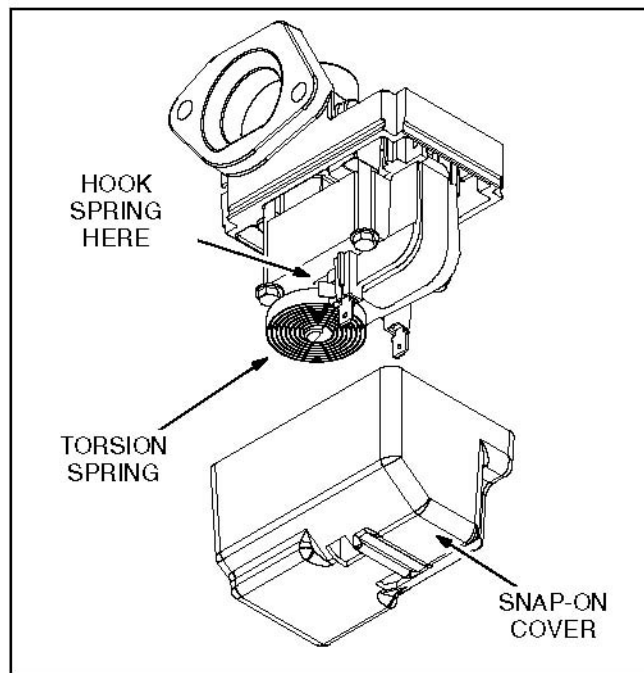

FIGURE 44. THROTTLE BODY/GOVERNOR ACTUATOR
3. Press the torsion spring onto the flat on the end of the throttle shaft and catch the spring hook in the slot in the coil bobbin (Figure 44).